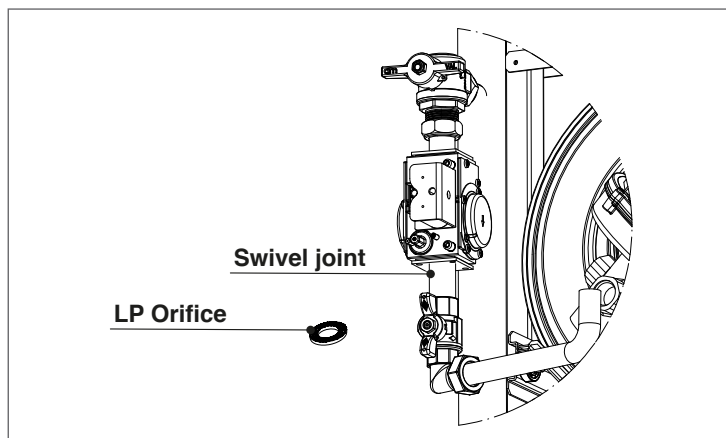

Fig. 14 Natural Gas to LP Gas Conversion
- Unscrew the swivel joint indicated in Fig. 14 to separate the valve from the connection pipe with the fan
- Place the provided metal orifice (Fig. 14) between the two gaskets (N° on orifice: 9.5)